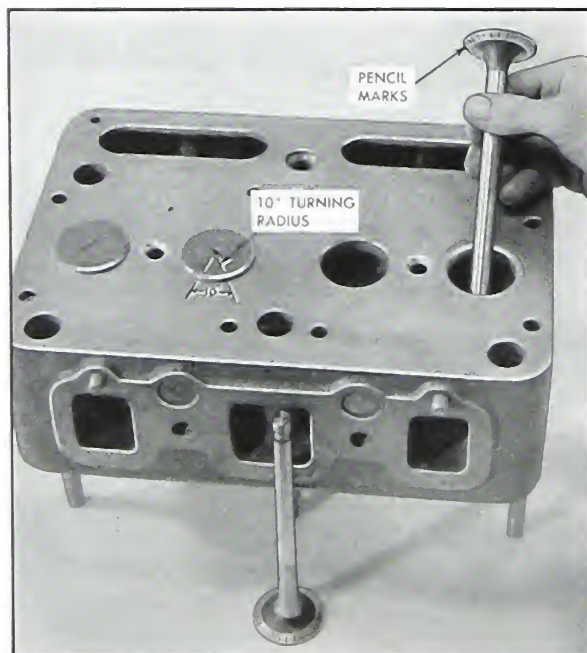

Fig. 3-20. Checking valve seat and valve
9. Indicate the newly ground valve face or check in finish reamed guide against newly ground valve seat face as shown in Fig. 3-20. Rotate the valve only 10 degrees to remove pencil marks or very thin coating of Prussian blue.